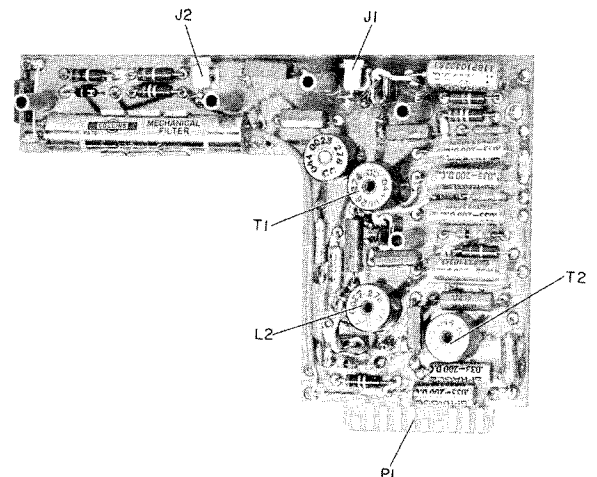

Figure 5-7. Converter-Oscillator CV-731/URC, SMO Module, Reference I-F Amplifier
a. Connect a d-c vtvm to A7J2 (see figure 5-7) in the reference i-f amplifier board, set the IO frequency to 645.4 kc (monitored in communications receiver), and adjust A6T1 for minimum voltage at A7J2.
b. Connect a d-c vtvm to A7J2 (see figure 5-7) and increase the amplitude of injection signal until the agc voltage at A7J2 starts to decrease (point of agc threshold).